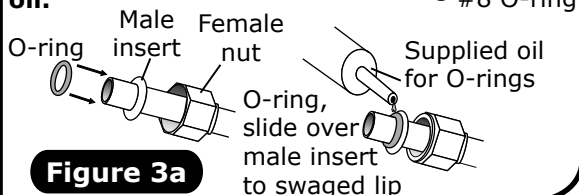
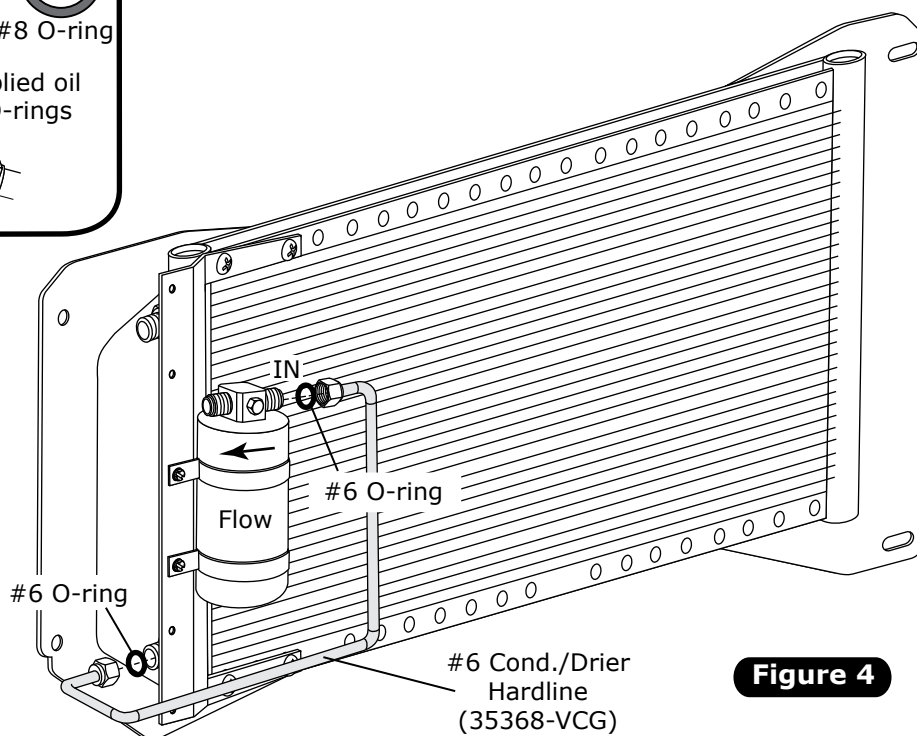

Figure 3a
Figure 4
2. Lubricate (2) #6 O-rings as shown in Figure 3a, and install the #6 Cond./Drier hardline as shown in Figure 4, below. Tighten fitting connections as shown in Figure 3a, below.
2. Lubricate a #6 O-ring and #8 O-ring as shown in Figure 3a on Page 7. Install the #6 drier hardline and the #8 condenser hardline as shown in Figure 9, below. Tighten fitting connections as shown in Figure 3a on Page 7.